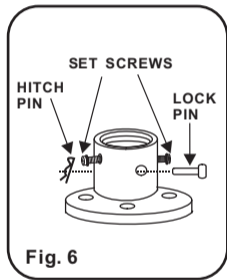

Fig. 6
**Step 2.** Loosen the two Set Screws and remove the Hitch Pin and Lock Pin from the coupling located on the top of the Motor Assembly. (Fig. 6)